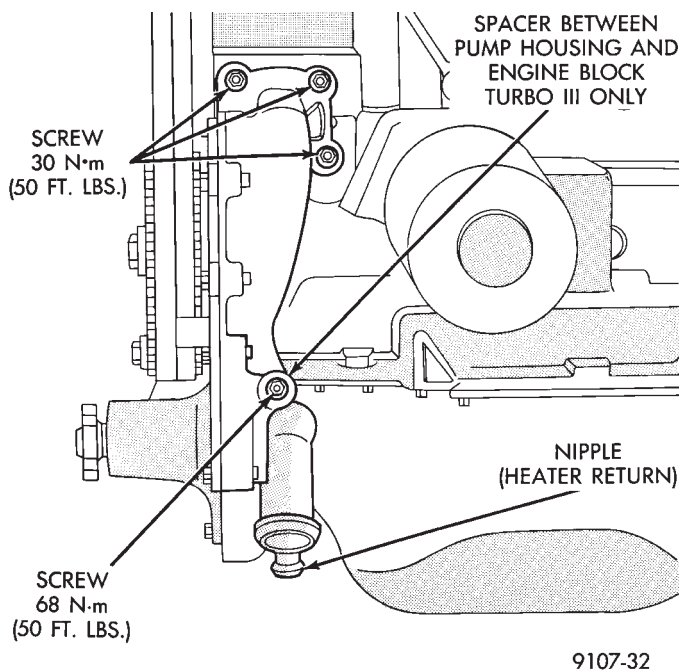
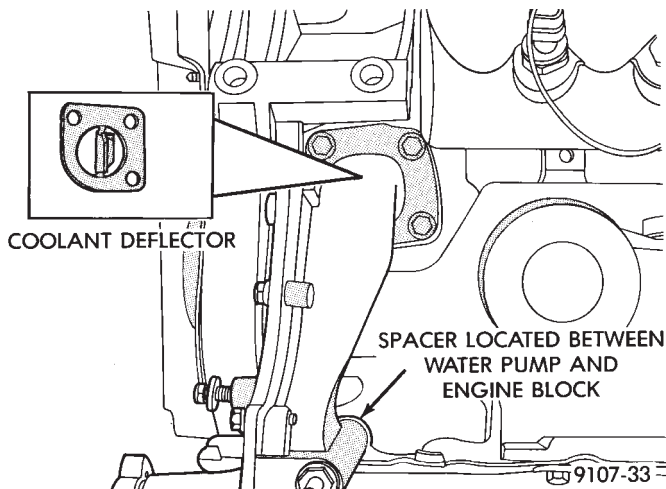

Fig. 1 Water Pump—2.2/2.5L Engines
Fig. 3 Coolant Deflector—Turbo III
(3) If the vehicle is not equipped with air conditioning, remove alternator and mounting bracket.
(4) Disconnect lower radiator and heater hoses from pump.
(5) Remove water pump attaching screws to engine (Fig. 1). Turbo III has a spacer between the water pump and block on the lower screw.
- (1) On Turbo III engines install the coolant deflector into the block before installing pump on engine (Fig. 3). **Install spacer between the pump and block for Turbo III only before tightening pump to specifications.** Tighten three top screws (Fig. 1) to 28 N•m (250 in. lbs.) and lower screw to 68 N•m (50 ft. lbs.).
- (2) Install bypass/heater hose and lower radiator hose.
- (3) Install alternator and air conditioning compressor bracket(s). For solid mount bracket see standard service procedures in Group 9 Engine.
- (4) Install alternator and air conditioning compressor.
(5) Refill cooling system. See **Refilling Cooling System.**
(6) Install drive belt, See Accessory Drive Belts, this Group.